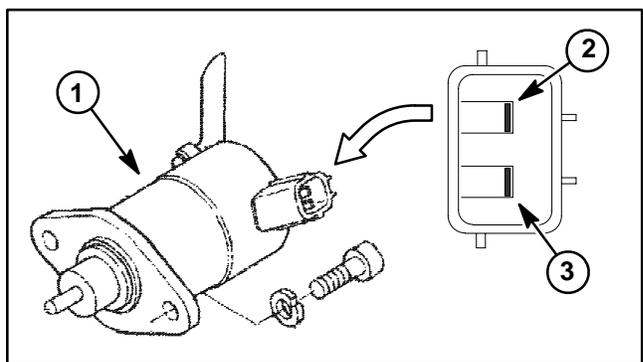

Figure 37
2. Using a digital multimeter, touch one test lead to the pull coil terminal and the other test lead to the stop solenoid frame (ground) (Fig. 37). The resistance of the pull coil should be less than 1 ohm (but not zero).
3. Using a digital multimeter, touch one test lead to the hold coil terminal and the other test lead to the fuel stop solenoid frame (ground) (Fig. 37). The resistance of the hold coil should be approximately 15.5 ohms.